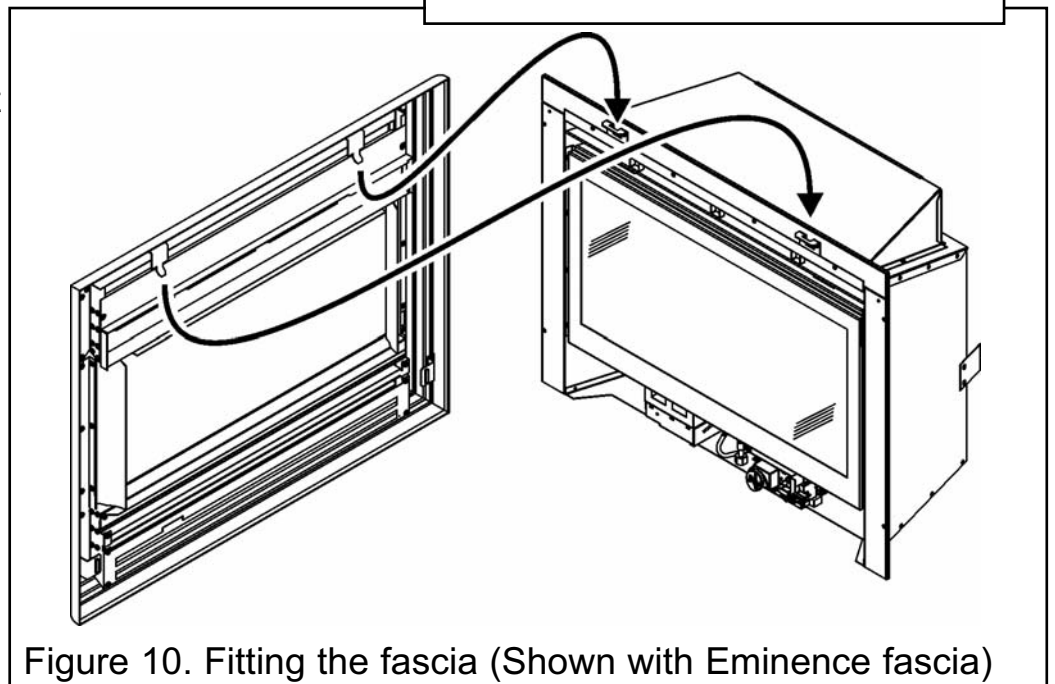

Figure 10. Fitting the fascia (Shown with Eminence fascia)
4. To fit the fascia, place the top rear of the fascia against the fireplace front surface so that the two retaining plates at the back of the fascia are directly above the two retaining brackets on the convection box. Keeping the lower part of the fascia clear of the fire body, lower the fascia making sure that the rear retaining plates locate fully into the retaining brackets on the convection box (See figure 10). The fascia bottom is held in place with magnets.